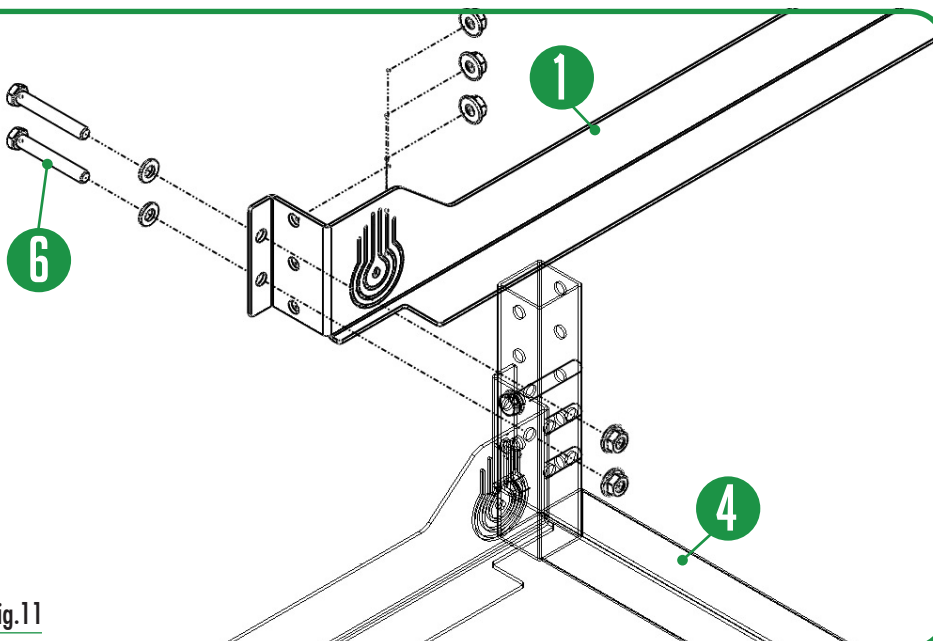

Fig.11
3.3 Fasten with two screws the free edge of the SIDE RAIL (1) to the free edge of the WELDED CROSSBAR (4) previously assembled in the MODULE FRAME (STEP2) as shown in fig.11